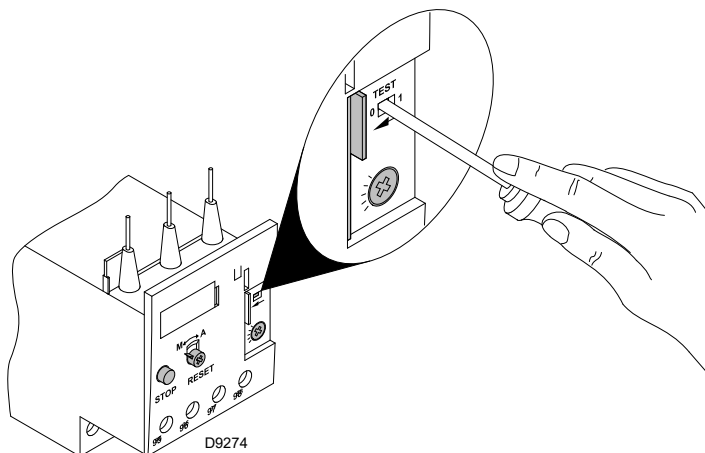

Fig. 28
- To test the overload relay, insert a screwdriver in the window **"TEST"** (Fig. 28) and move it in the sense of the arrow (towards right).